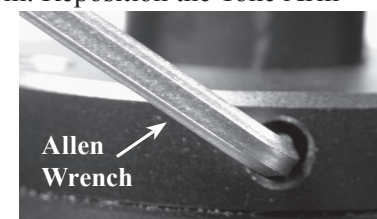

Figure 26
2. With the Tone Arm secured in the Tone Arm Rest, carefully loosen the set screw while supporting the rear of the Tone Arm. Reposition the Tone Arm based on findings in the previous step. Temporarily tighten one of the set screws. Refer to figure 26.